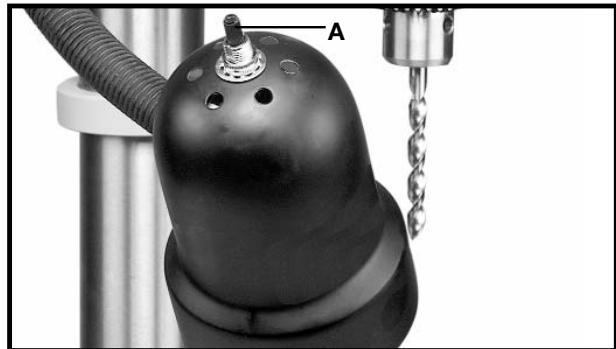

Fig. 19A
⚠️ WARNING: The flexible lamp operates independently of the drill press. To turn the lamp “**ON**” and “**OFF**”, rotate switch (A) Fig. 19A.